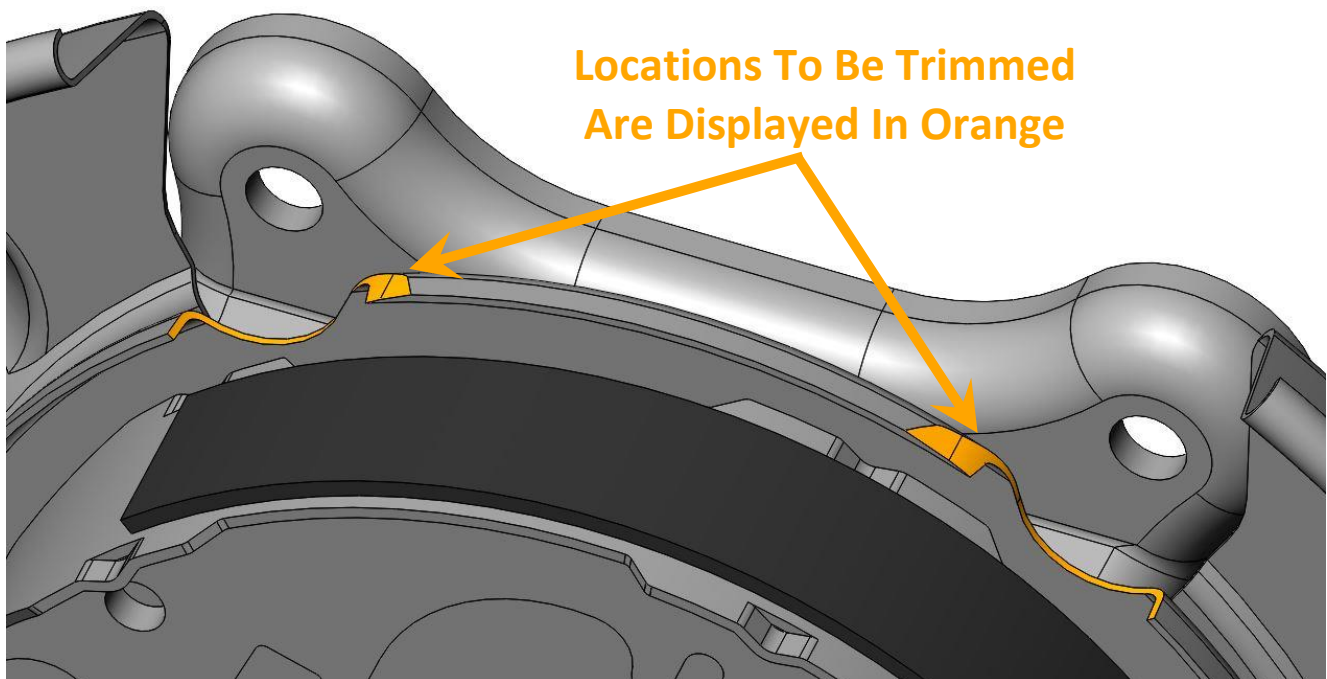

Figure 1a – OEM Backing Plate Trimming Location
3. Before installing the disc brake kit, the OEM backing plate will require minor trimming for proper clearance of the new 4-Piston Billet Aluminum Brake Caliper. **A 3D Printed Modification Template has been provided that is the EXACT profile the OEM backing plate needs to be trimmed to.** We recommend using a die grinder with a carbide burr or a pneumatic belt sander to grind the backing plate. This may be done with the OEM park brake shoes still mounted to the backing plate. Trim the OEM backing plate until the 3D Printed Modification Template sits flat on the caliper mounting surface and both M12-1.75 x 23mm Hex Head Bolts can slide freely into the holes as if they were being installed into the 4-Piston Billet Aluminum Caliper. See Figures 1a below and 1b on the next page below for trimming reference.